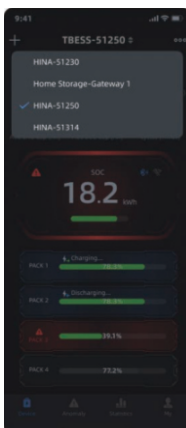

Figure 2
2)Figure 2: Click on the top home storage name to expand the menu and display the list of bound devices. Click on any device name to quickly switch.